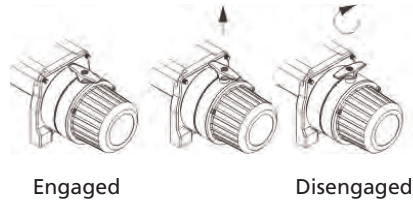

Figure 9
1. Rotate the clutch lever to the "Disengaged" position as shown in Figure 9. If there is a load on the wire rope, the clutch lever may not turn easily. **DO NOT FORCE THE CLUTCH LEVER.** Release tension on the wire rope by jogging out some of the wire rope, then try releasing the clutch.
3. Check that there are at least five (5) turns of wire rope or (8) turns of synthetic left on the drum.
4. Re-engage the drum by rotating the clutch lever to the "Engaged" position (see Figure 9).